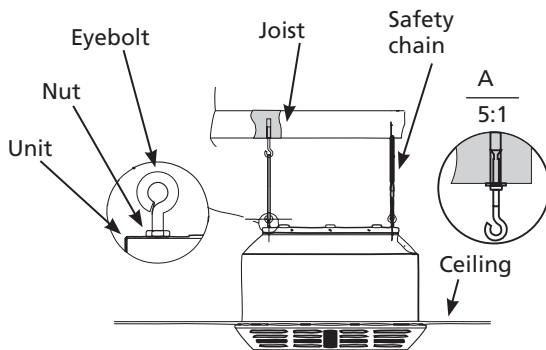

Figure 2 – Suspended Ceiling Installation
2. Install M8 eyebolts into mounting slots with washers and lock-nuts as shown in Figure 2.
6. Attach a length of safety chain to each of the four eyebolts or fit the threaded rod. Fasten securely. See Figure 2.
7. Lift unit into place and support unit while securing to permanent ceiling, ceiling joist, etc. See Figure 2.